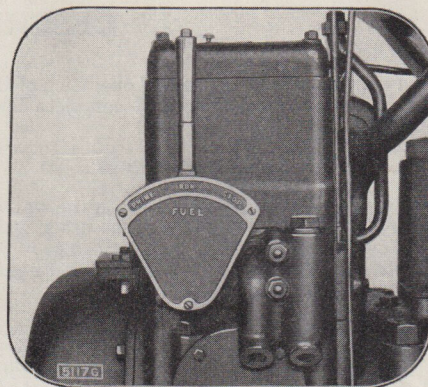

Fig. 3. Fuel Control Mechanism
Control of Injection System—Control of the injection system is centered in the hand lever at the right of the fuel pump housing. It has three positions, "Prime," "Run," and "Stop" which are plainly marked on the quadrant. The hand lever is attached to a control shaft which has cams for lifting the pump plungers (B) and the suction valves (P). See Fig. 3.